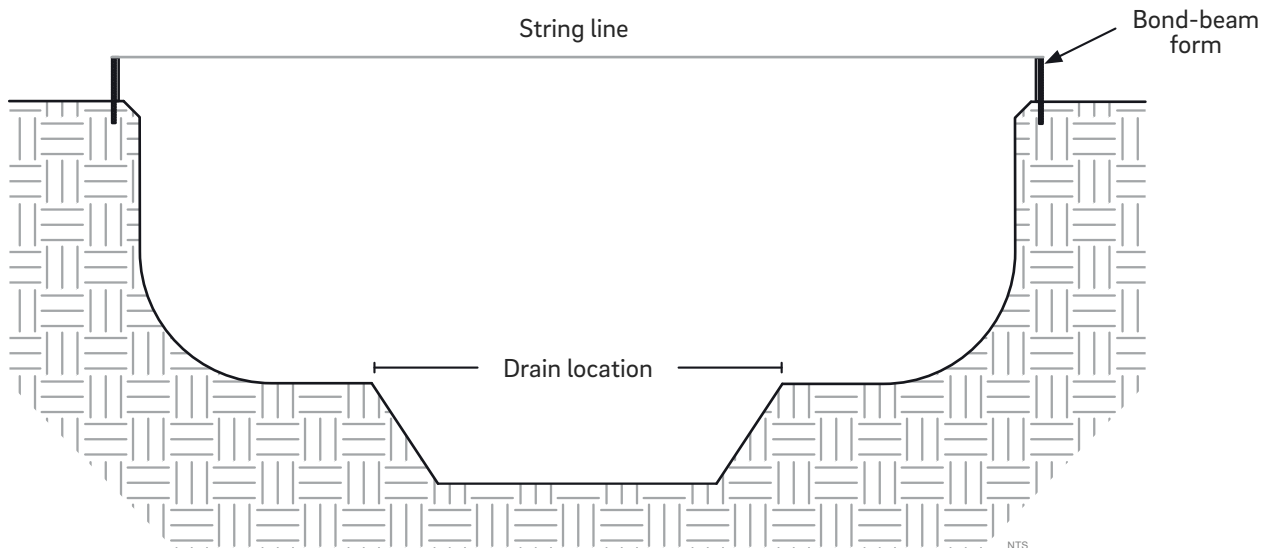

Figure 4
1. Run a tight string line across the top of the bond beam forms opposite of each other and directly over the deepest point of the pool. This string line will be used as a reference to locate the proper height of the AVSC drain (Figure 4).